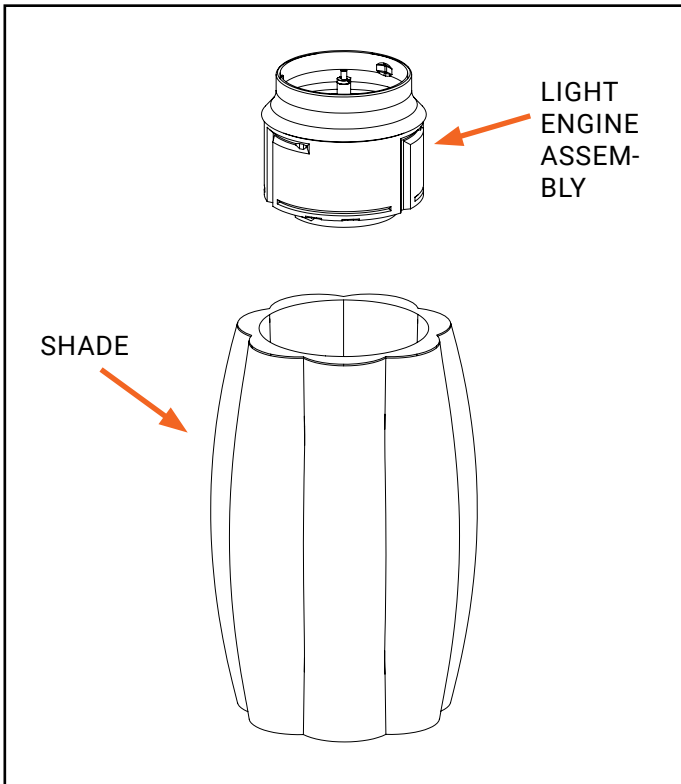

Figure 11
13. Take the shade and light engine out from the box. (Figure 11)